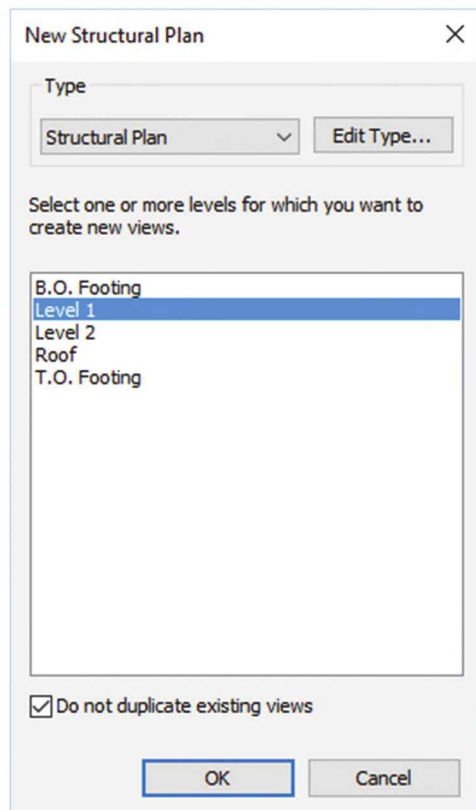

FIGURE 8-2.4 Creating a new plan view
12. In the *New Plan* dialog box (Figure 8-2.4):